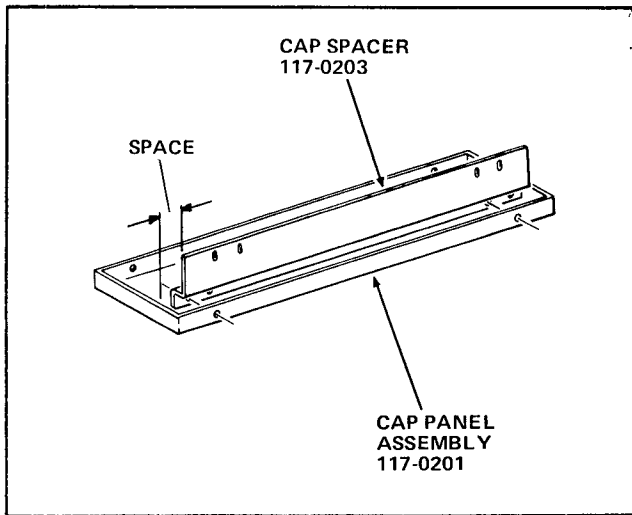

FIGURE 3
1. Lay the Cap Panel Assembly, part number 117-0201 face down on a flat surface with one of the long sides toward you. See Figure 3.
3. Place the Cap Spacer, part number 117-0203, which is shorter than the Cap Panel Assembly, on the 2 Screws installed in step B2. Be sure, the Cap Spacer is as far as possible to the right side of the Cap Panel as you look at it, and that the step on the Spacer causes the Spacer to extend beyond the edge of the Cap Panel Assembly. The hole on the left end of the Cap Spacer has through it, the Screw which is on the left end of the Cap Panel Assembly. See Figure 3.